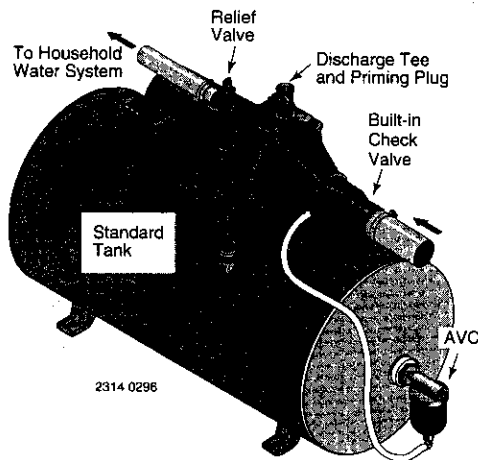

Figure 1
The Jet pump can also be mounted on standard horizontal tanks. A mounting kit with an AVC is furnished with tank (Figure 1, Page 3). Instruction are also included.
NOTE: To properly prime the pump, install a pipe tee in the discharge piping, similar to that shown in Figures 1 and 2 on Page 3.
1. Remove priming plug (Figure 1, Page 3).